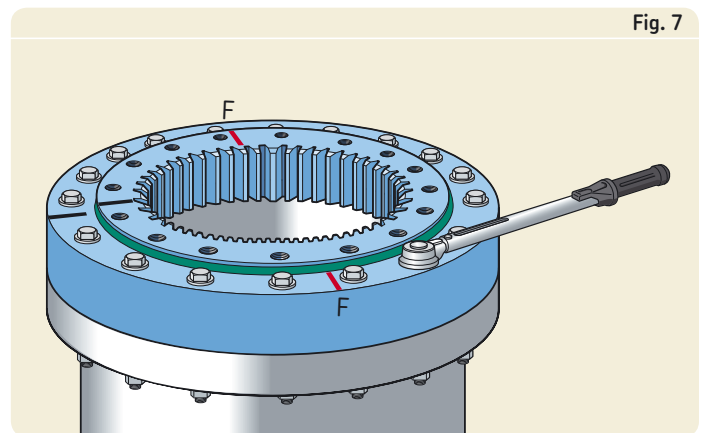

Fig. 7
- 8 In a first round, tighten the bolts or nuts (→ **fig. 7**) to between 40 and 50 % of the prescribed value, following the tightening pattern (→ **fig. 8**). In a second round, fully tighten the bolts or nuts to the prescribed preload, following the tightening pattern.